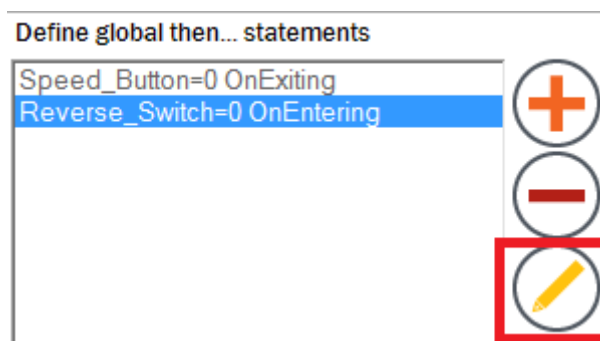

Figure 188. Edit global action
- Actions are changed by selecting the condition and clicking the "Edit" button (Figure 188).